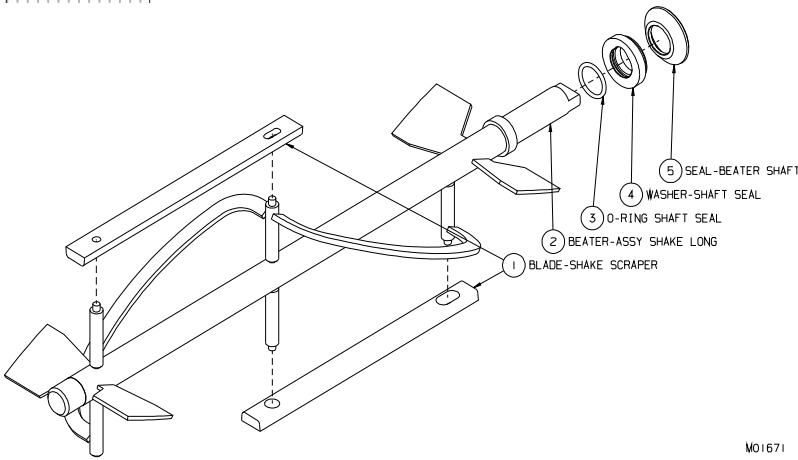

Figure 7-2
2. See figure 7-2. Install the shaft seal over the rear of the beater shaft with the bell-shaped portion facing the rear.